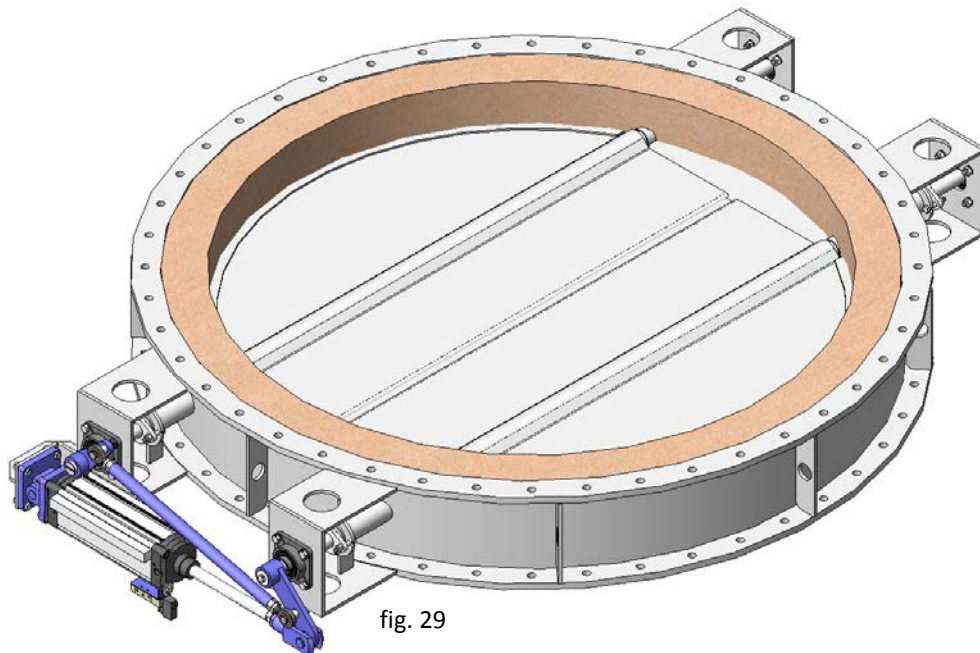

fig. 29
- Linear pneumatic cylinder (fig. 29) *